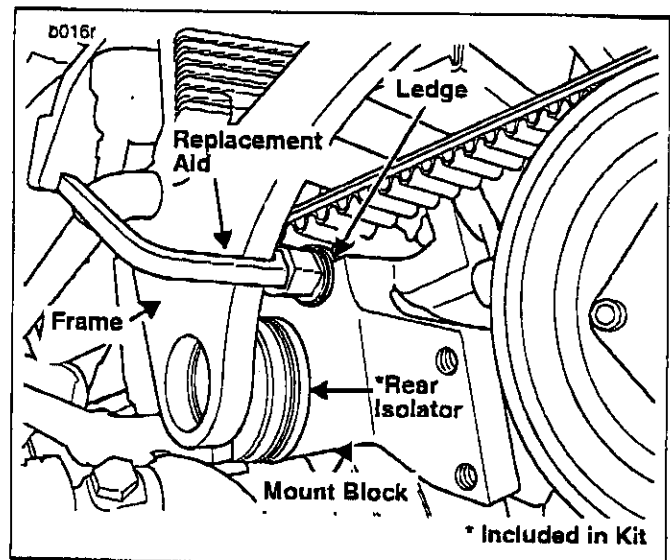

Figure 4. Rear Isolator Replacement Aid In Use
19. See Figure 4. Working on the right side first, insert the rear isolator replacement aid between mount block and frame. NOTE: ledge on aid should engage top of mount block.